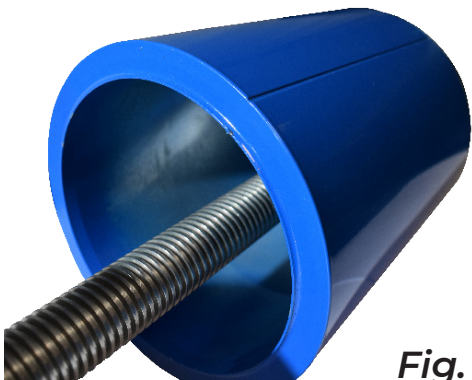

Fig. 1
3. Position the receiving tube with the widest opening facing away from the trailing arm and the opening with the lip (fig. 1) facing the arm to be seated.